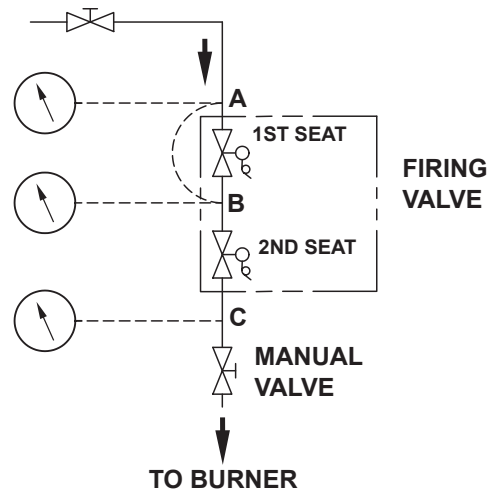

Figure 78. Leak Test Procedure
Test point C is a bleedle valve located downstream of both automatic gas valve seats and upstream of the manual valve. See **Figure 78**.
- a. Close downstream manual gas valve. See **Figure 78**. Turn power on.